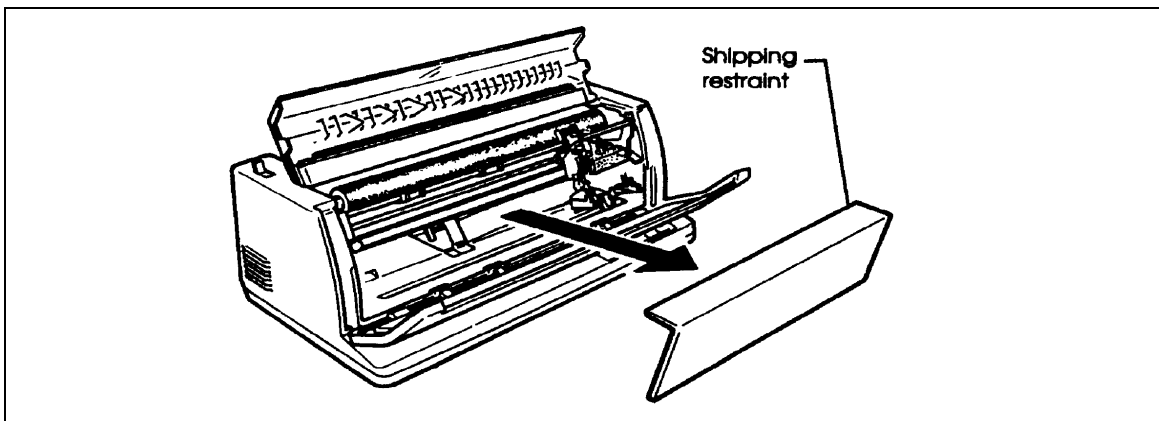

Figure 3-14. Removing the Shipping Restraint.
- (1) Open the box and remove the printer and its components.
- (2) Examine each item for damage.
- (3) Place the printer where you plan to use it.
- (4) Remove the tape securing the top and front covers of the printer.
- (5) Open the covers and remove the cardboard shipping restraint as shown in figure 3-14.